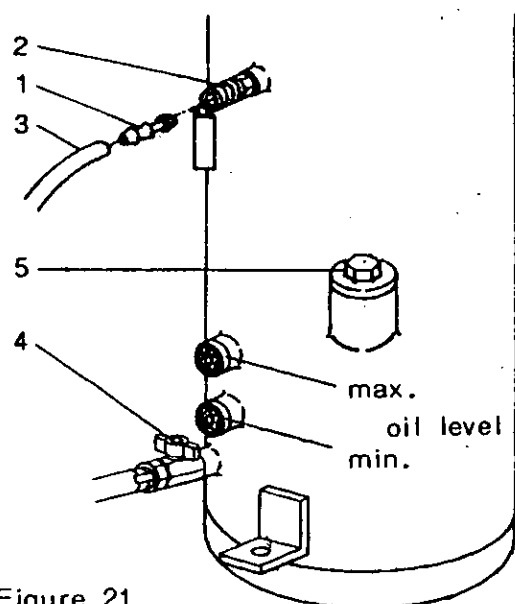

Figure 21
- Place vent socket into hose coupling (1, figure 21) at the tank (the tank loses its pressure). Then wait about 1 minute until the oil settles.
- Hook hose (3, figure 21) of other pressure source to socket (1, figure 21) onto tank and pressure feed.
- Slowly open tank drain valve (4, figure 21). The pressure remaining in the tank will cause the oil to flow.
- Oil adding see item 6.5 and 6.5.1.